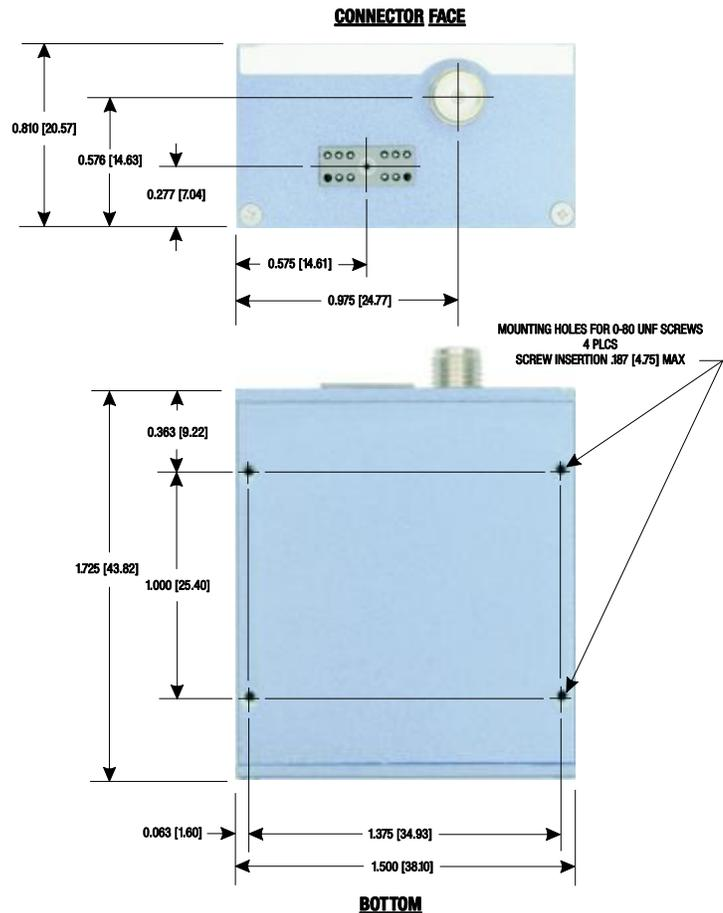

Figure 20. MIDG Series INS/GPS Mechanical Dimensions
7.1 Physical Dimensions. The MIDG Series INS/GPS physical dimensions and standard reference axis of the are shown in Figure 20.